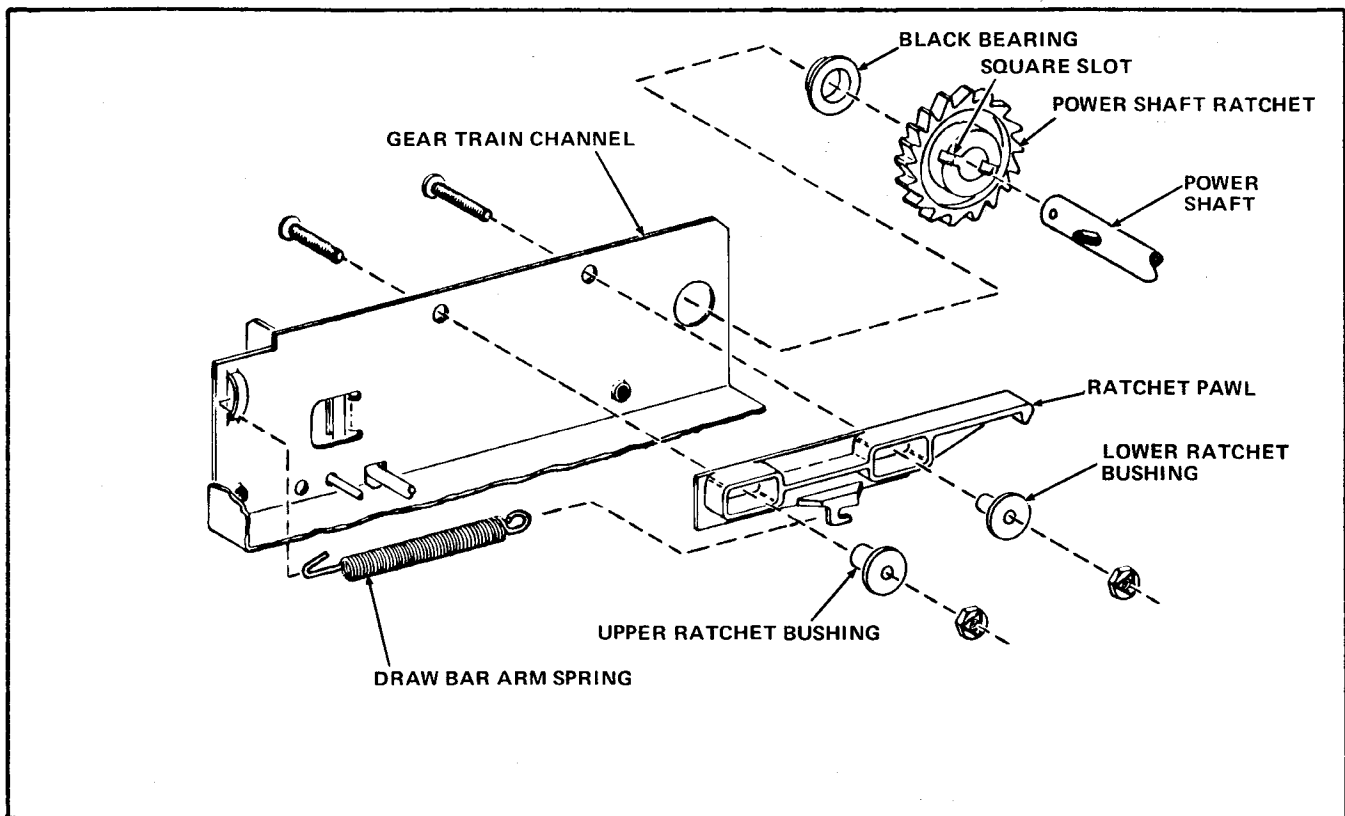
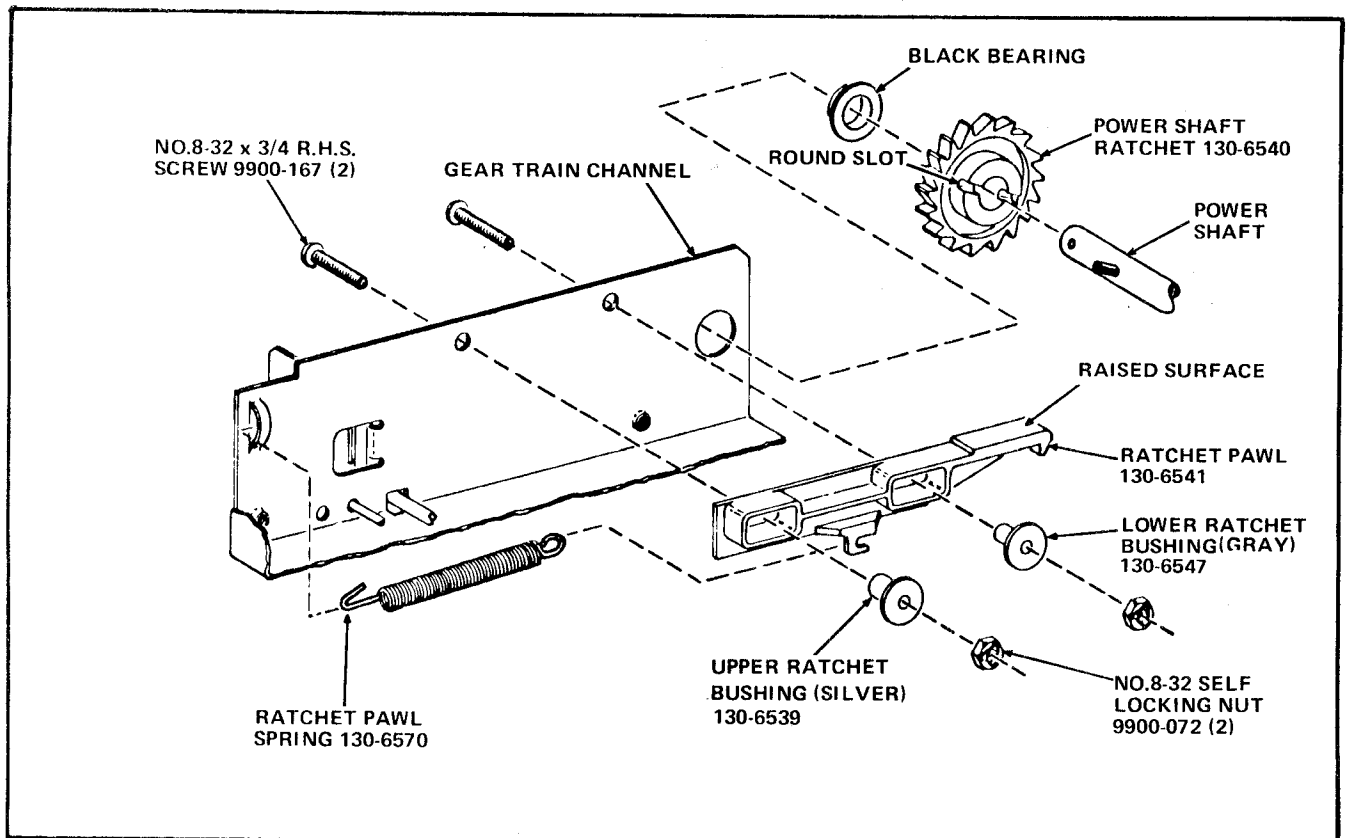

FIGURE 6
FIGURE 7
2. The replacement Power Shaft Ratchet can be distinguished from the one that is to be removed by the curved radius in the bottom of the roll pin slot. The roll pin slot on the Power Shaft Ratchet, that is to be removed, has a square bottom. See Figure 6 and Figure 7.
3. The replacement Ratchet Pawl can be distinguished from the one that is to be removed by the raised surface at the end of one side of the Ratchet Pawl as shown in Figure 7.
4. Remove the Black Bearing from the Power Shaft. See Figure 6. This Black Bearing is used on later model Merchandisers only.
5. Remove the Power Shaft Ratchet from the Power Shaft. See Figure 6.
6. Remove the Draw Bar Arm Spring from the Gear Train Assembly. See Figure 6.
7. Remove two Screws, two Nuts, the Upper and Lower Ratchet Bushings and the Ratchet Pawl from the Gear Train Assembly. See Figure 6.
1. Install the Ratchet Pawl, Part Number 130-6541, included in the Kit, on the Gear Train Channel using the Upper Ratchet Bushing, Part Number 130-6539, Lower Ratchet Bushing, Part Number 130-6547, two No.8-32 x 3/4 Round Head Screws, Part Number 9900-167 and two No.8-32 Self Locking Nuts, Part Number 9900-072, all included in the Kit. See Figure 7.
2. Install the blue Ratchet Pawl Spring. Part Number 130-6570, included in the Kit. Extend the Spring from the loop on the Gear Train Channel to the Ratchet Pawl as shown in Figure 7.
3. Install the Power Shaft Ratchet, Part Number 130-6540, included in the Kit, on the Power Shaft by fitting the Roll Pin on the Shaft in the Roll Pin Slot on the Ratchet. See Figure 7.
4. On later model Merchandisers, install the Black Bearing, removed in Step A-4, on the Power Shaft. See Figure 7.